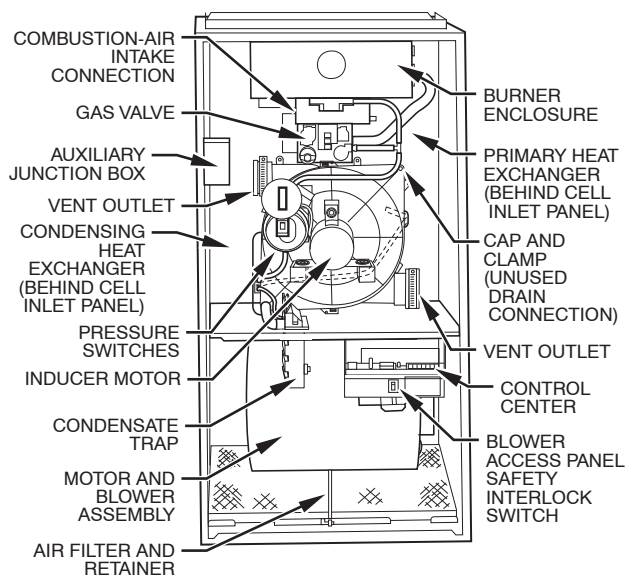
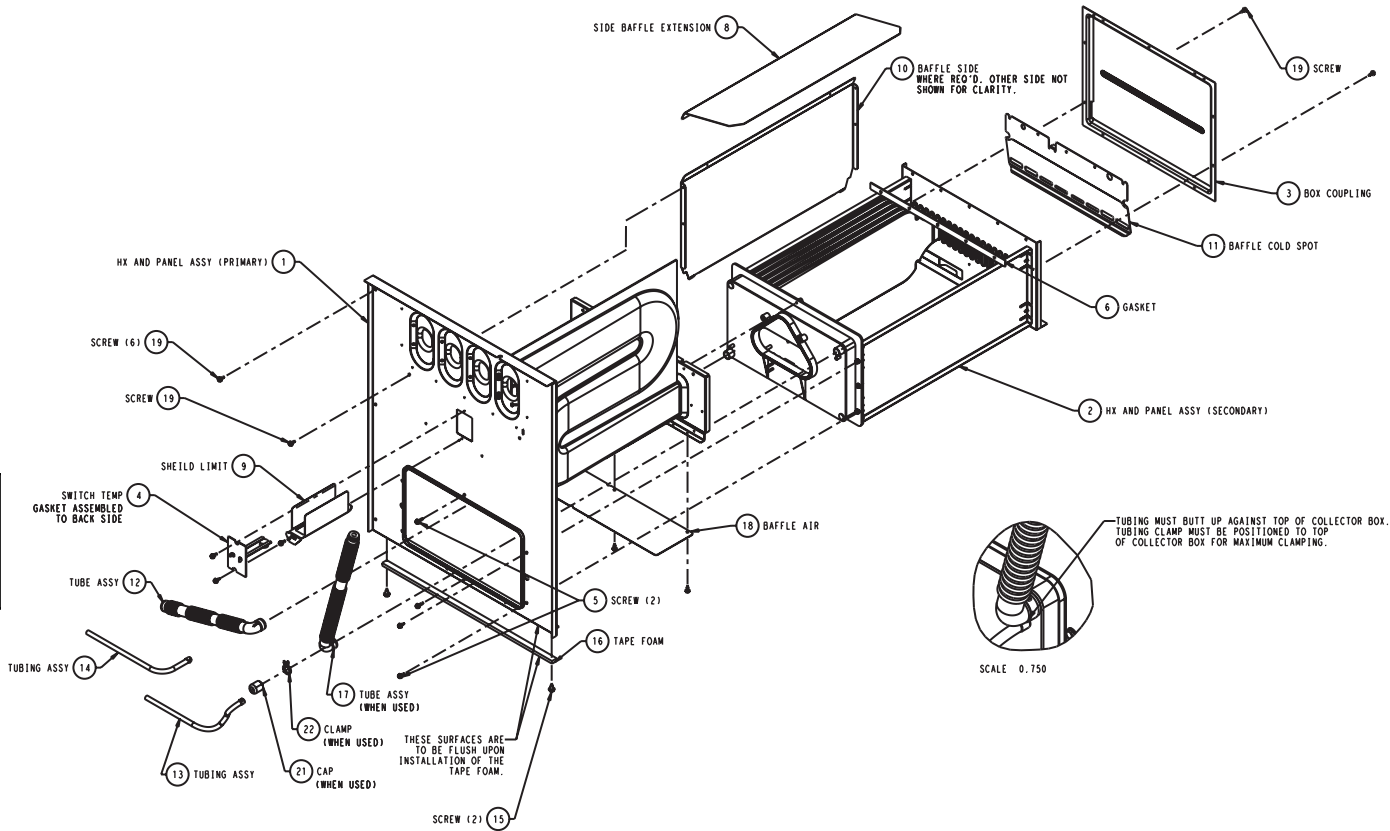
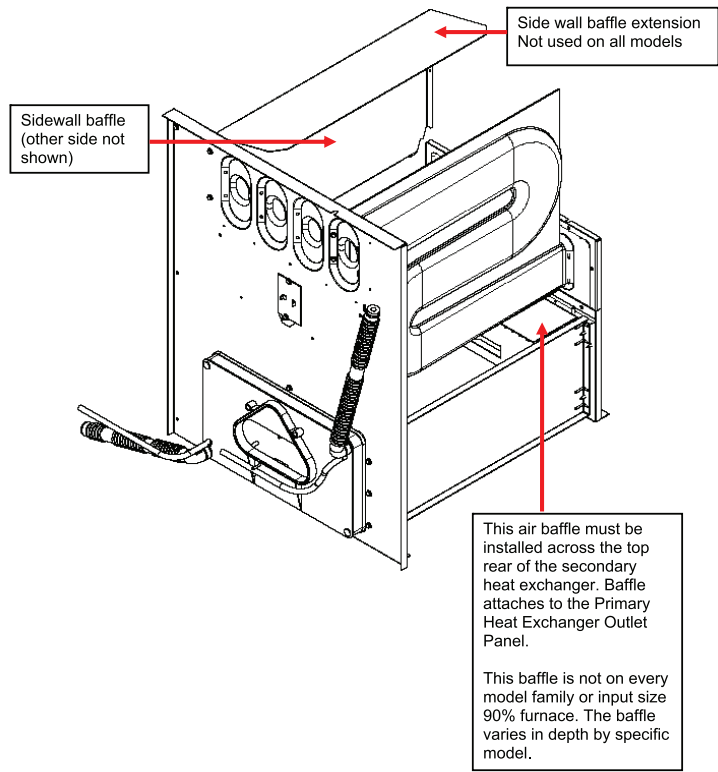

Fig. 1 - Fixed and Two-Stage Models
Fig. 3 - Expanded View of Heat System Components in Upflow Orientation
Fig. 4 - Assembled View of Heat System Components in Upflow Orientation
See Fig. 1 and 2 for furnace component locations. See Fig. 3 for expanded view of heating system components. See Fig. 4 for assembled view of heating system components.
2. Apply sealant releasing agent such as PAM cooking spray or equivalent (must not contain corn or canola oil, halogenated hydrocarbons nor aromatic contents to prevent inadequate seal) to primary cell outlet panel and condensing heat exchanger surface where new coupling box sealant will mate. (See Fig. 3.)
NOTE: Coupling box mounting holes will only align in 1 position. (See Fig. 3.)
NOTE: When re-installing condensing heat exchanger assembly, the lower flange of the condensing heat exchanger cell rear panel must engage on the T-tabs in rear blower shelf. (See Fig. 3.)